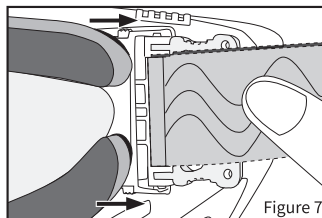

Figure 7
- 9.Visually inspect the top and bottom locking tabs on the frame retention clip to confirm they have locked into place. The tabs should be fully rearward in the locking channel. (See figure 7)